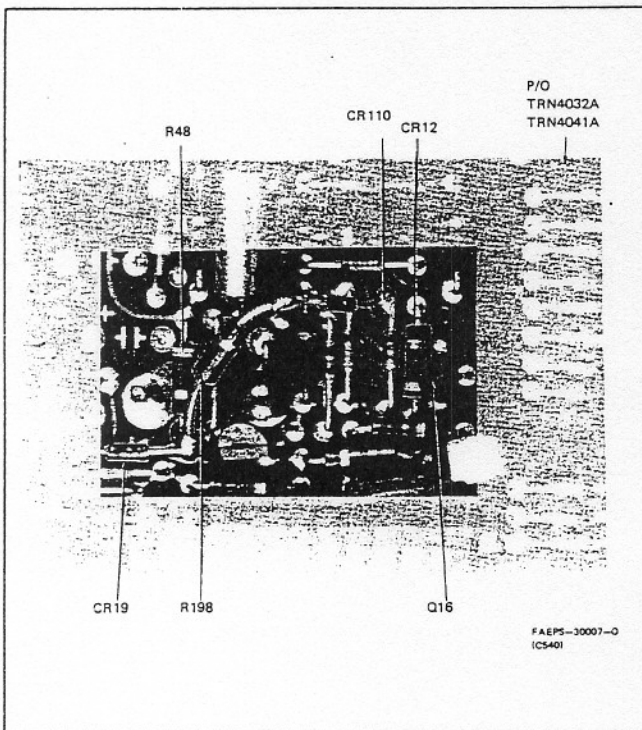

Figure 2.
(Refer to Table 1, and Figures 2 and 3.)
Step 2. Select the components listed in Table 1, and install the diode and resistor as illustrated in Figure 2.